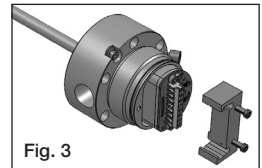

Fig. 3
Step 2: Slide programming tool into place as shown. (Fig. 3)